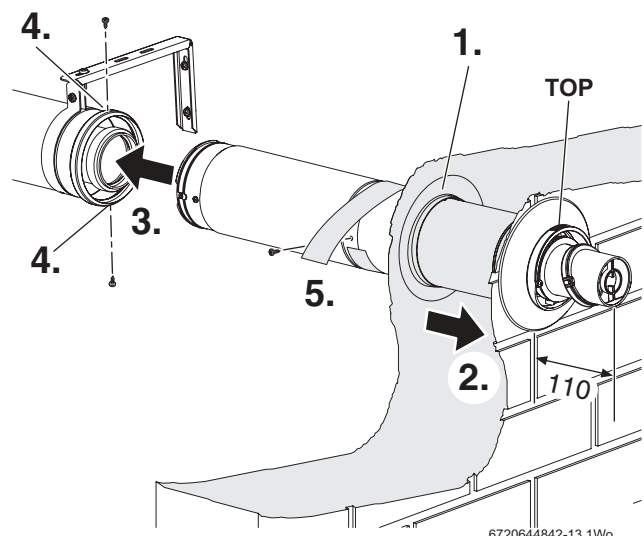

Fig. 24 Extended flue
1. Refer to figure 24 and slide the inner wall seal onto the terminal.